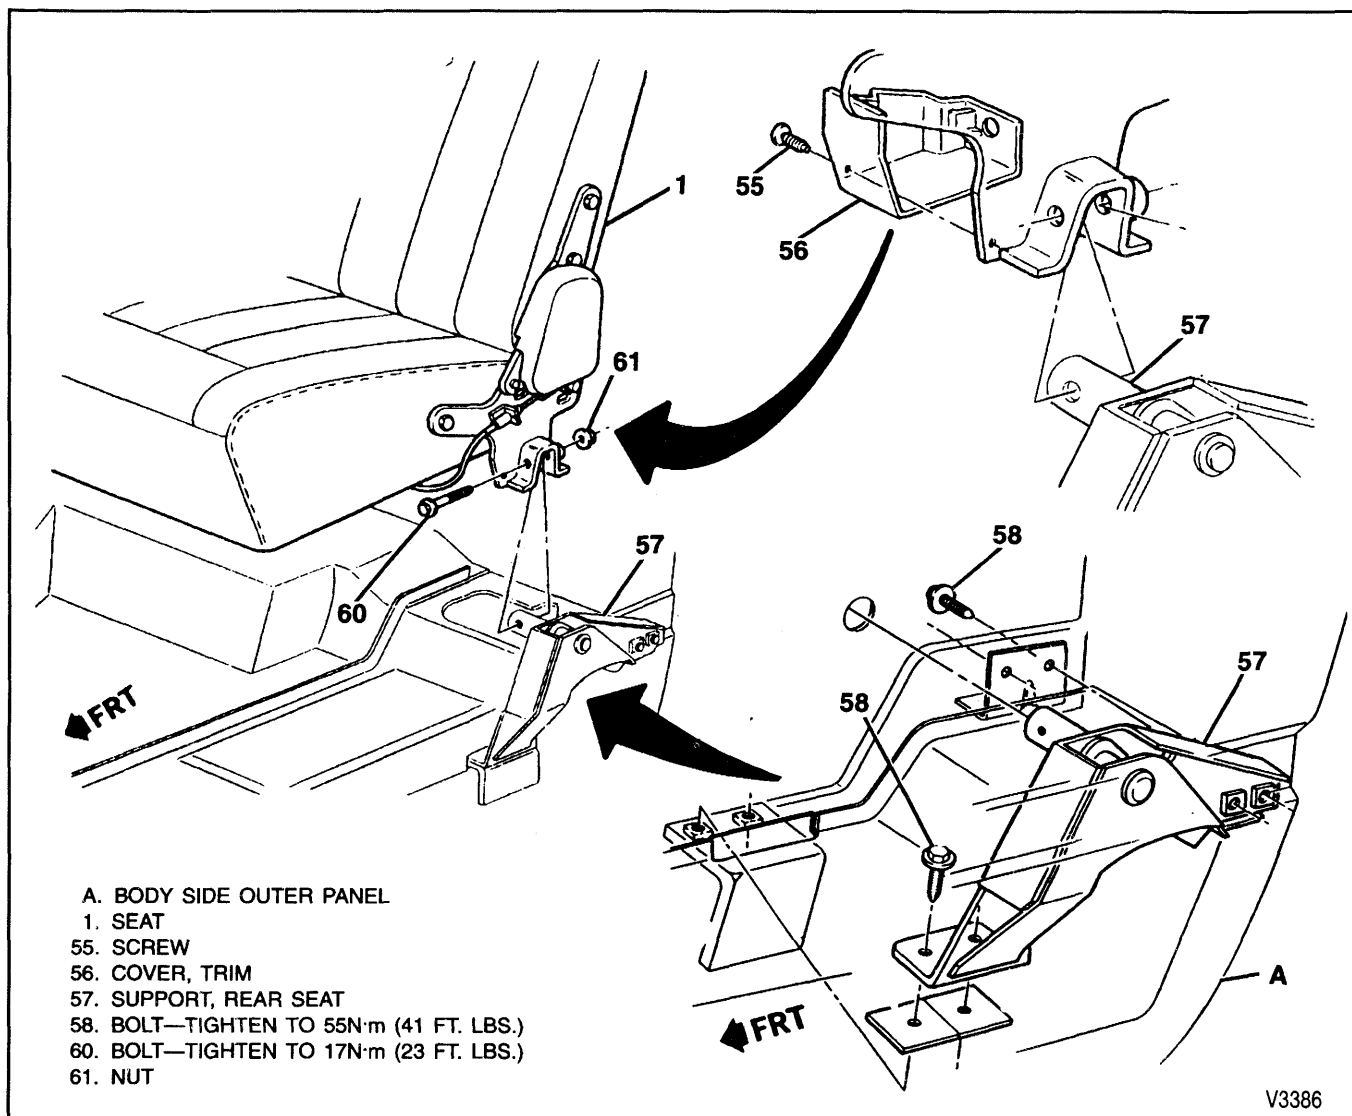

Figure 8—Rear Folding Seat Mounting (Extended Cab)
1. Front and rear leg trim covers and (figure 8).
**Remove or Disconnect (Figures 8 through 12)**
- Refer to figures 8 through 12 for specifications.
**Remove or Disconnect (Figure 8)**
Install or Connect (Figure 8)